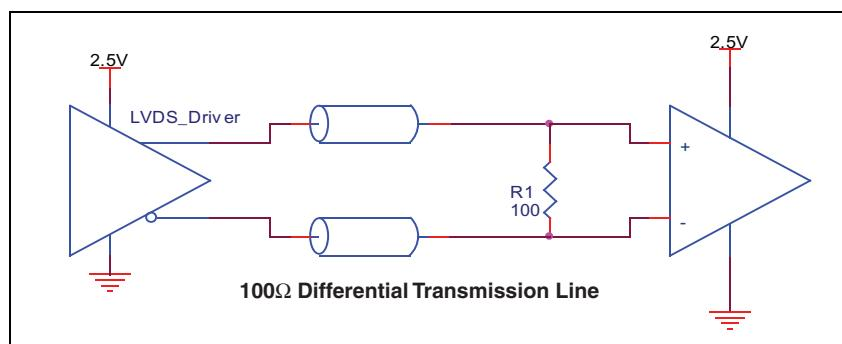

FIGURE 5. TYPICAL LVDS DRIVER TERMINATION
*Figure 5* shows a typical termination for LVDS driver in characteristic impedance of  $100\Omega$  differential (50 $\Omega$  single) transmission line environment.